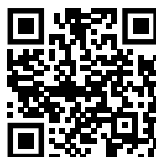

Fig. 139
- ▶ Atveriet Liebherr SmartMonitoring Dashboard. (skat. Fig. 139)